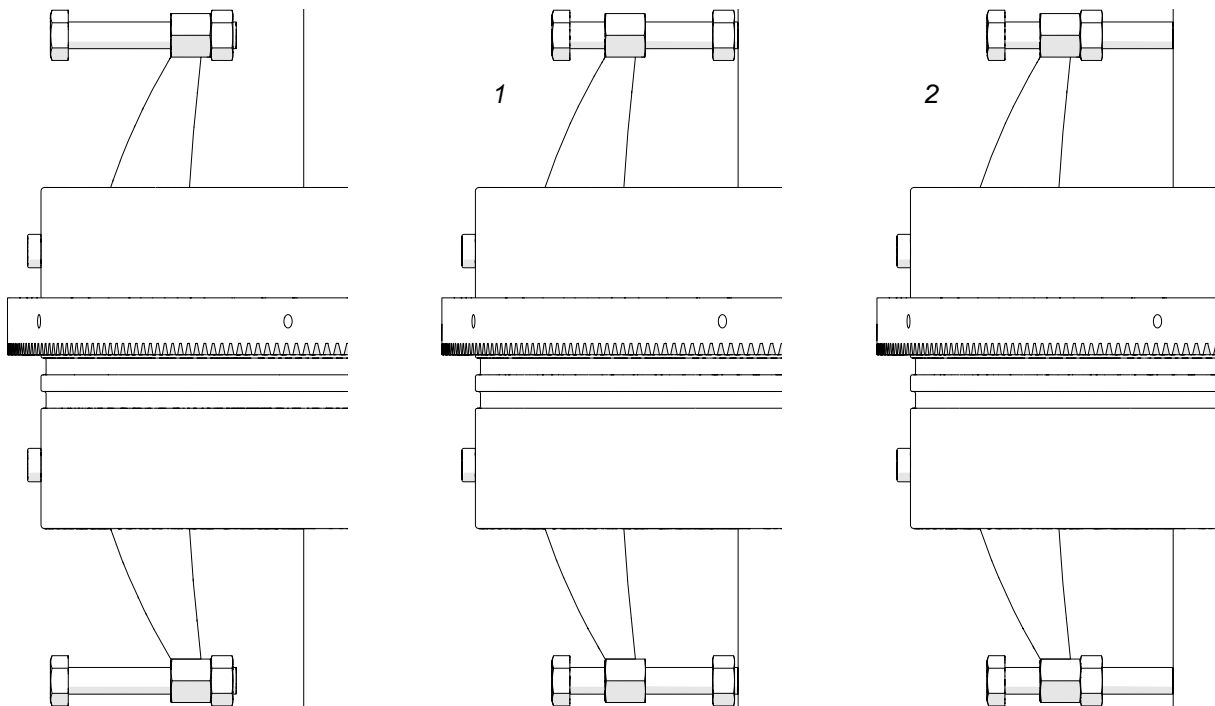

Fig. 5. Securing the ring track to the workpiece
Use the 13 mm flat wrench to adjust the bolts (or manually the screws) to the same extent on each support so that the bolts (screws) are in contact with the workpiece (1, Fig. 5). If the workpiece is exactly in the center of the track, lock the supports in this position with the nuts (2) or levers.